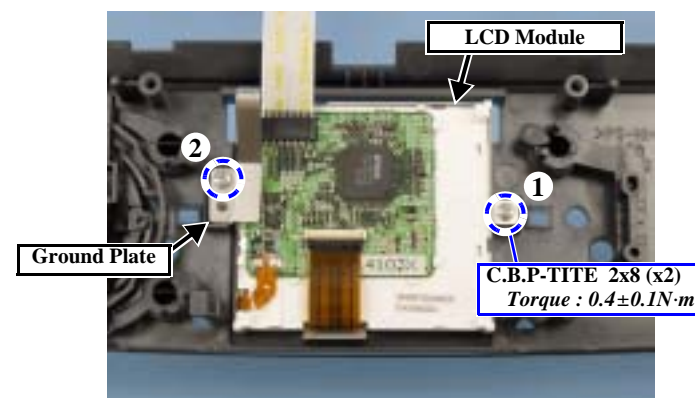

Figure 4-6. Removing the LCD Module
4. Remove the screws (x2), and remove the LCD Module. (Fig. 4-6)
- Tighten the screws for the LCD Module in the order specified. (Fig. 4-6)